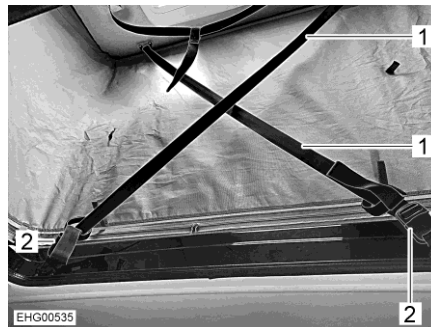

Fig. 75 Wind protection
- Pull out both retaining belts (Fig. 75,1) completely.
- Attach the retaining belts diagonally to the belt locks (Fig. 75,2).